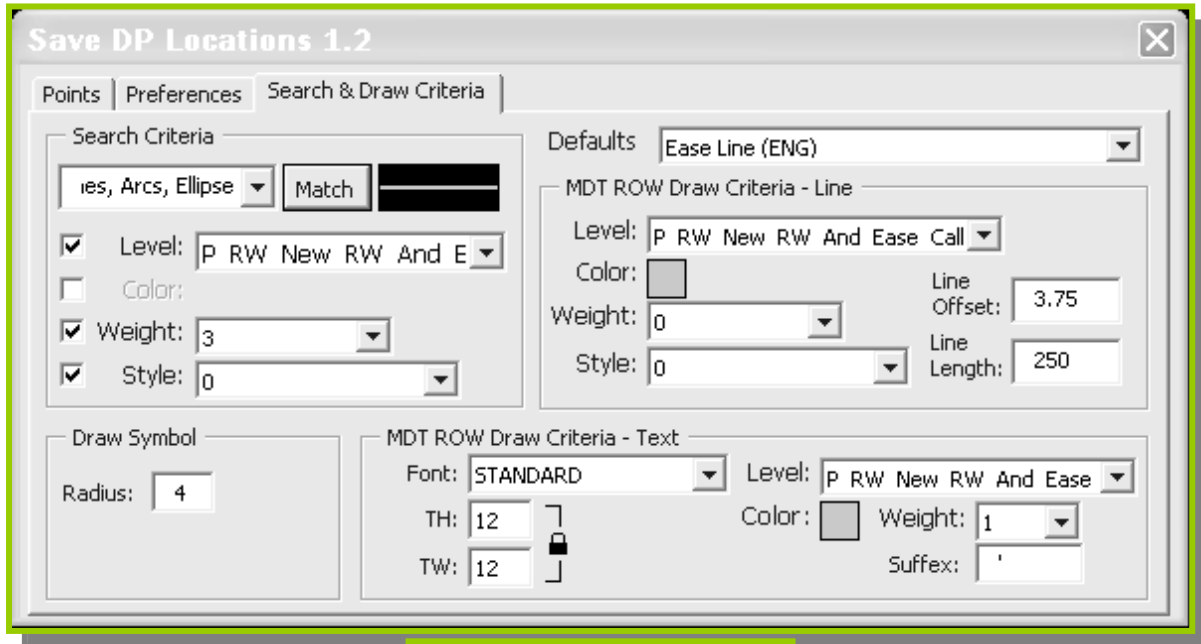

Figure 7
9. Within the Search & Draw Criteria tab select the Defaults “**EASE LINE (MET)**” or “**EASE LINE (ENG)**”, then alter the Search and Draw Criteria as appropriate. (See Figure 7)